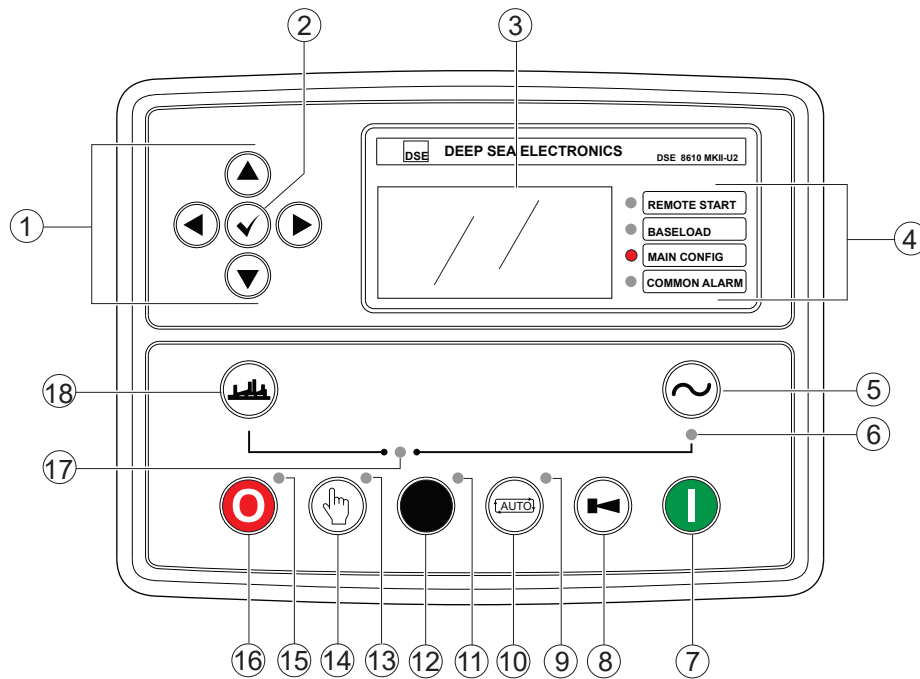

Figure 6. DSE8610 MKII/MKII-U2 Controller
6. **Contactor Open Lamp** — When lit (**GREEN**), indicates contactor switch is **OPEN**. Load is removed. Works in conjunction with the contactor open button located on the controller. Refer to Figure 6.
7. **Contactor Closed Lamp** — When lit (**RED**), indicates contactor switch is **CLOSED**. Load is connected. Works in conjunction with the contactor closed button located on the controller. Refer to Figure 6.
The definitions below describe the controls and functions of the Deep Sea DSE8610 MKII/MKII-U2 controller (Figure 6).